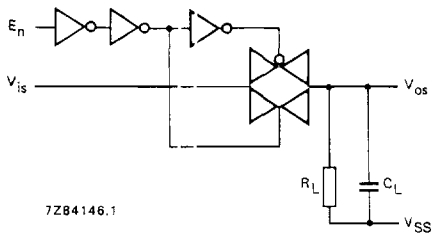

Fig. 6.
1. $R_L = 10\text{ k}\Omega$ to V_{SS} ; $C_L = 50\text{ pF}$ to V_{SS} ; $E_n = V_{DD}$; $V_{is} = V_{DD}$ (square-wave); see Figs 6 and 10.
$V_{is} = V_{SS}$ and R_L to V_{DD} for t_{PLZ} and t_{PZL} ; see Figs 6 and 11.
5. $R_L = 10\text{ k}\Omega$ to V_{SS} ; $C_L = 15\text{ pF}$ to V_{SS} ; $E_n = V_{DD}$ (square-wave); crosstalk is $|V_{os}|$ (peak value); see Fig. 6.